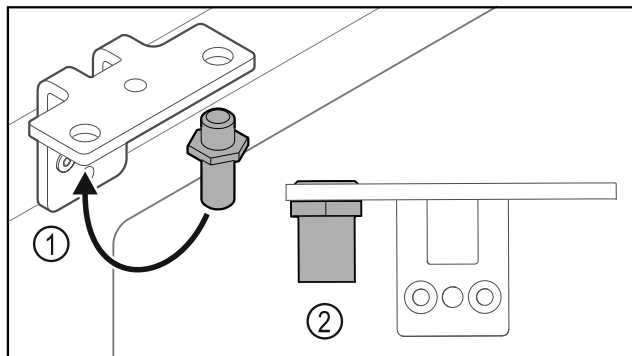

Fig. 22
- Put the pin back into the hinge Fig. 22 (1).
- Tighten the pin Fig. 22 (2) to a **torque of 12 Nm**.